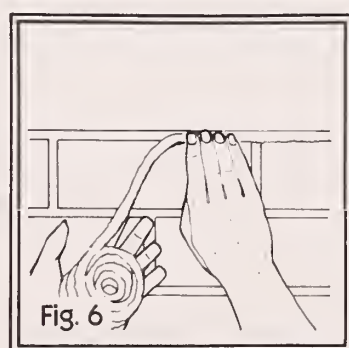

Fig. 6
3. Most joints can be caulked with the "rope form" caulking. Unwind the caulk and force it into the cracks with your fingers (fig. 6).